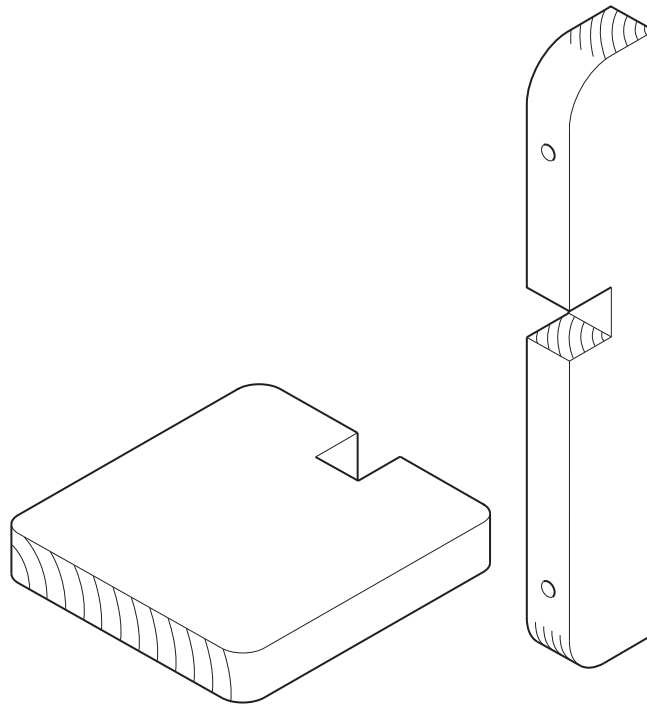

Fig. 9
- 10** Fig. 9 shows an exploded view of a shelf bracket to support a plant pot. The shelf bracket is to be attached to the wall.